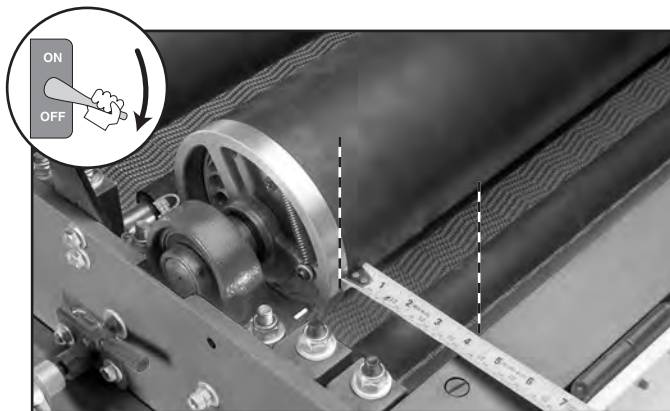

Figure 59. Measuring distance between edge of rear drum and the upper frame.
4. At each end of rear drum, measure distance between edge of rear drum and rear upper frame, as shown in **Figure 59**. Difference between measurements will tell how close drum is to being perpendicular to feed direction.